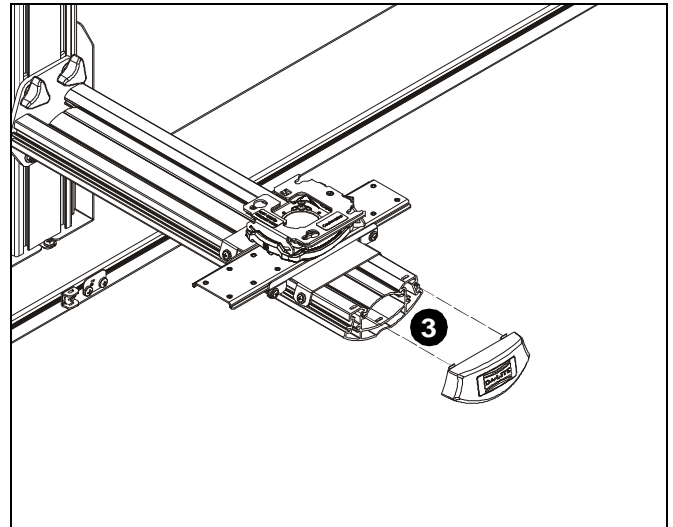

Figure 3
3. Remove end cover from rear projector arm. (See Figure 3)